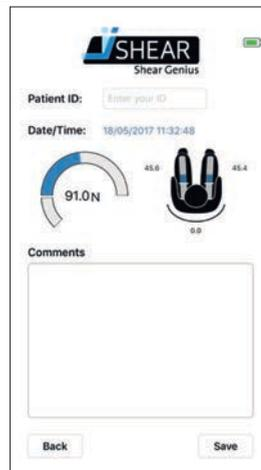

Figure 22 - Save screen
4. Tap the empty text field next to 'Patient ID' and fill in a patient ID (see Figure 22).
5. Tap the empty text field underneath 'comments' and fill in any relevant information about this measurement or wheelchair setup (see Figure 22) There is space for 200 characters max.